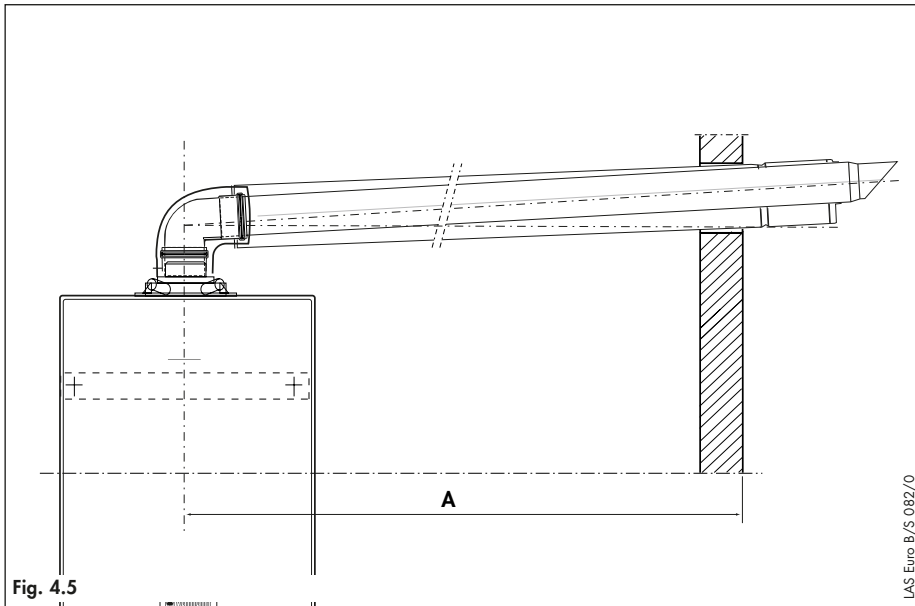

Fig. 4.5
Measure the distance from the outside face of the wall to the centre of the fan outlet on the boiler (fig. 4.5).
- For installations where the measured distance dimension A (fig. 4.5) is greater than 960 mm, an air/flue extension accessory will be required. The number of air/flue duct extensions which can be used depends on the boiler.